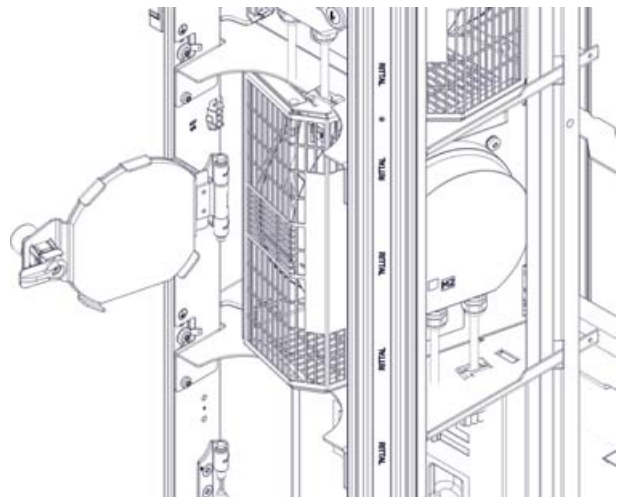

Fig. 39: Rotated fan module in fan tray
■ Rotate the fan module in the rack by 90° in a counter-clockwise direction (fig. 39).